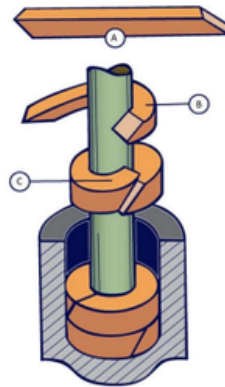

Figure 45. Spreading of Cut Sealing Rings
**5) INSTALL ONE RING AT A TIME.** See Figures 45 and 46 for installation of cut rings. For installation of die formed rings of flexible graphite, in order to prevent cracking and breaking of the material, do not spread apart the ring as shown in Figure 45. Form a helix with the die formed ring (see Figures 46). Make sure it is clean and has not picked up any dirt in handling. Seat rings firmly, except PTFE filament and graphite yarn packings which should be snugged up very gently and then tightened gradually after the pump is operating. Joints of successive rings should be staggered and kept at least 90 degrees apart. Each individual ring should be firmly seated with a tamping tool or, a suitable split bushing fitted to the stuffing box bore. When enough rings have been individually seated so that the nose of the gland will reach them, individual tamping should be done by the gland.